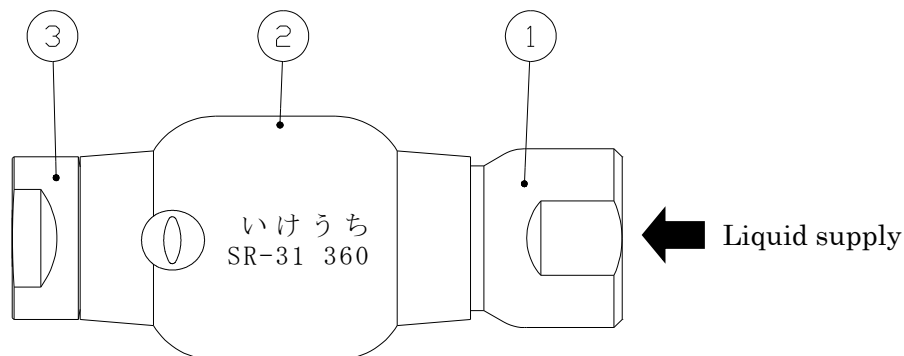

Figure 1 (Model: SR-31)
- (1) Attach the connecting adaptor (#1) to the right side of the nozzle body (#2) when the engraved markings on the nozzle body (#2) are facing forward and in the correct orientation as shown in Figure 1 below.